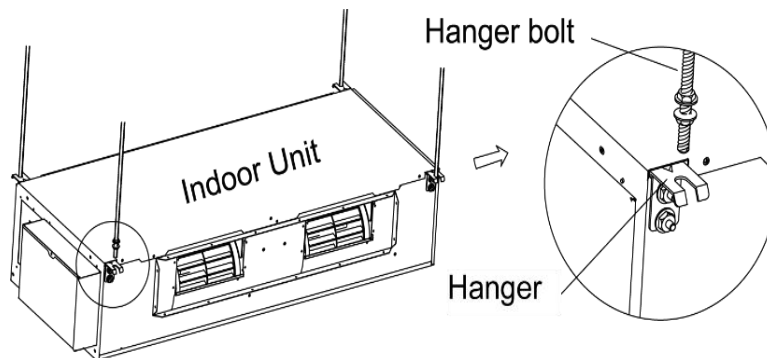

Fig7
6. Remove the paper pattern and mount the unit as shown in Fig7.